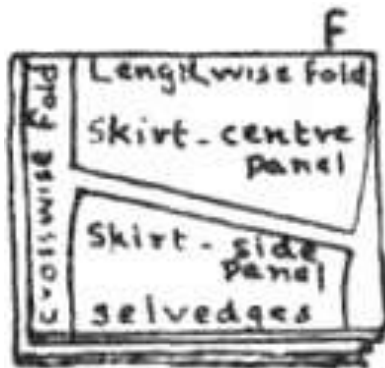

Fig.12.1f
- (e) As far as possible try to fit the wide end of one piece beside the narrow end of another. (See the petticoat layout shown in Fig.12.1f)
f) **Combination fold (Fig.12.1f):** Here, lengthwise fold and crosswise fold are combined.